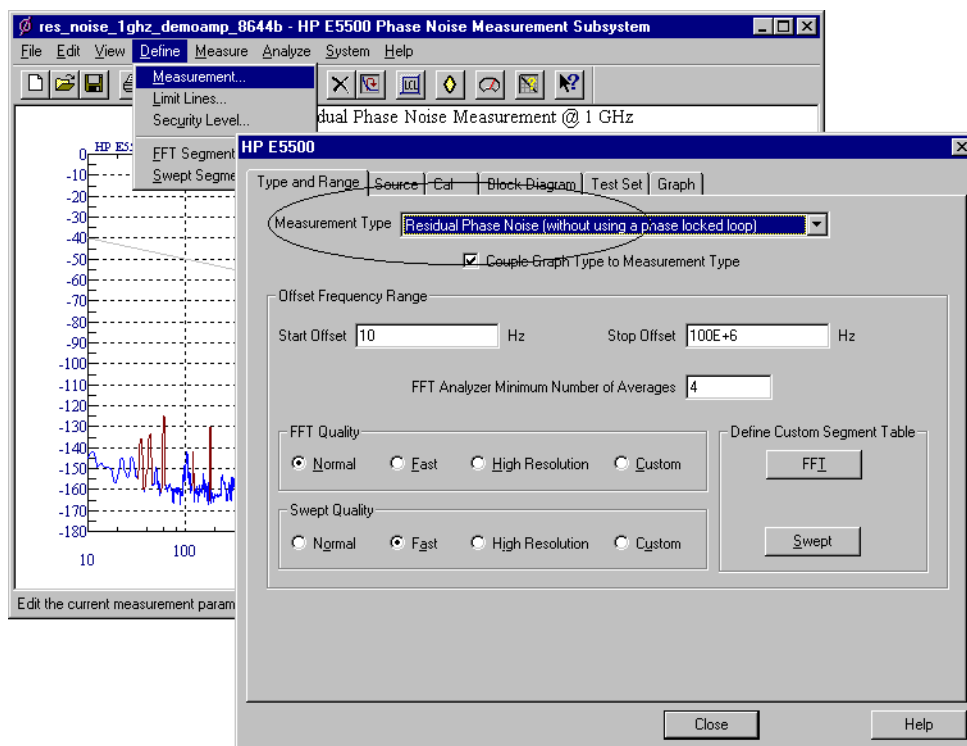

Figure 9-3 Navigate to Residual Phase Noise
- 6 From the Measurement Type pull-down, select **Residual Phase Noise (without using a phase locked loop)**. See Figure 9-3.